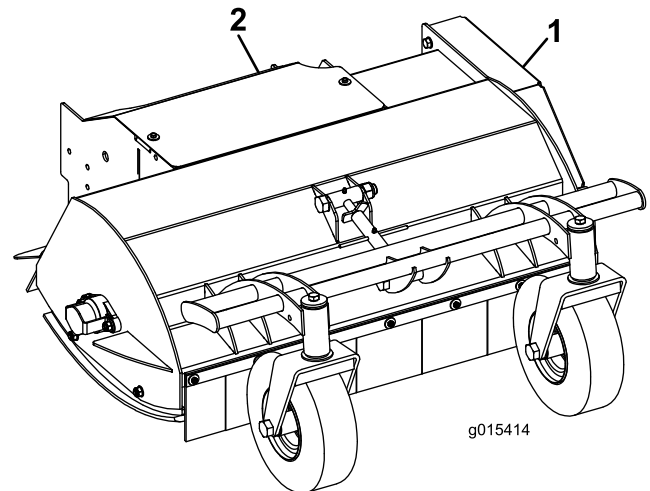

Figure 7
1. Remove the top guard (Figure 7).